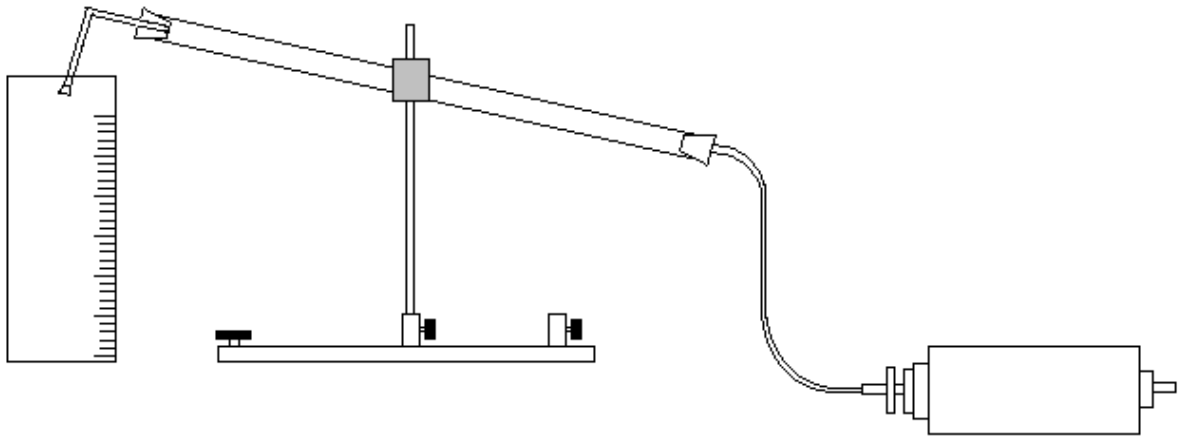

Fig. 1 Measuring the volume of the escaped air
- Set up an experiment as in Fig. 1 to determine the volume of air.